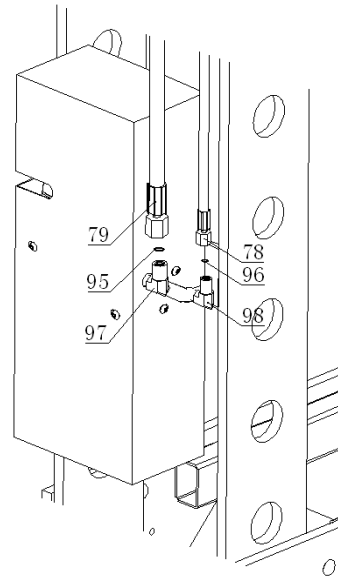

Fig. 6
11.2.4 Remove the plug of connector (97、98) and oil hose (78、79), then connect the oil hose 1 (78) and oil hose 2 (79) to connector (98) and connector (99) and tighten it. (refer to fig. 6) Note: make sure the o-rings are in the grooves of connector (97) & (98) before assembling the two oil hoses.